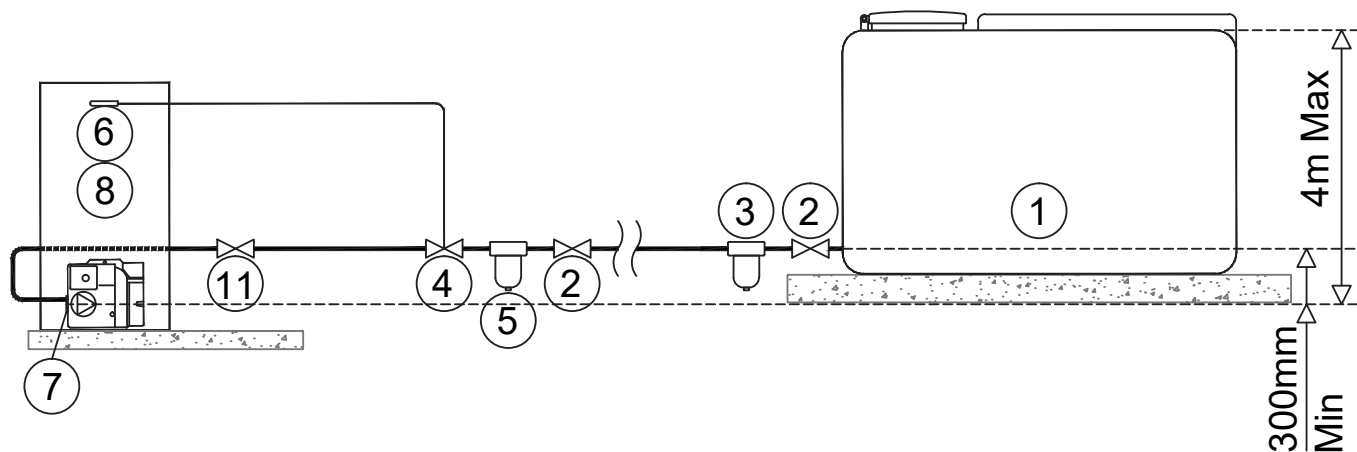

Figure 3-1: Single pipe (gravity) system
A second filter (15 µm for Kerosene) must be located closer to the burner to protect the burner pump and nozzle from contamination. Refer to Figures 3-1 to 3-3.
The fire valve should be located after the second (15 micron) filter, i.e. between the filter and the point at which the oil line enters the appliance casing. Refer to Figures 3-1 to 3-3.
3.1.3 SINGLE PIPE (GRAVITY) SYSTEM - (REFER TO FIGURE 3-1)